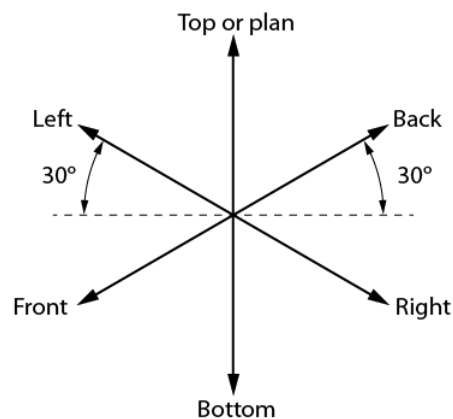

Figure 6.2.2: Step 1: Isometric guide for front-right view
Draw a small star-shaped axis on the bottom corner of your grid paper. The sloping axes should be drawn at a 30-degree angle from the horizontal grid line. The vertical axis of the star indicates height (H) or depth (D), and the two sloping axes indicate the length (L) and the width (W) of the rectangle. The vertical axis can be used as a guide when making lines on your drawing. Notice we have labeled the points on the star in Figure 6.2.2. When drawing a stationary object, these labels can change depending on your desired view. The bottom two horizontal points indicate the view that is being drawn. In this case, we would be creating a front-right view.